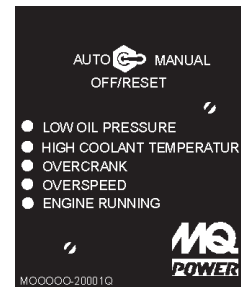

Figure 65. Engine Running LED (ON)
25. Verify that the “**Engine Running**” status LED on the MPEC unit (Figure 65) is “**ON**” (lit) after the engine has been started.